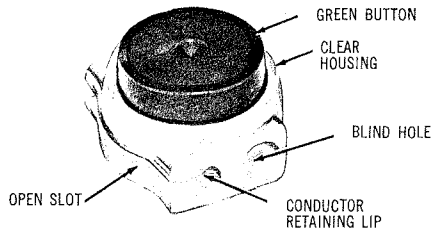

Fig. 7—Scotchlok UG Connector
5.02 The UG connector, Fig. 7, uses the insulation piercing quick-connect principle to join wires. The assembly contains a silicone grease for corrosion-proofing the completed wire joint.